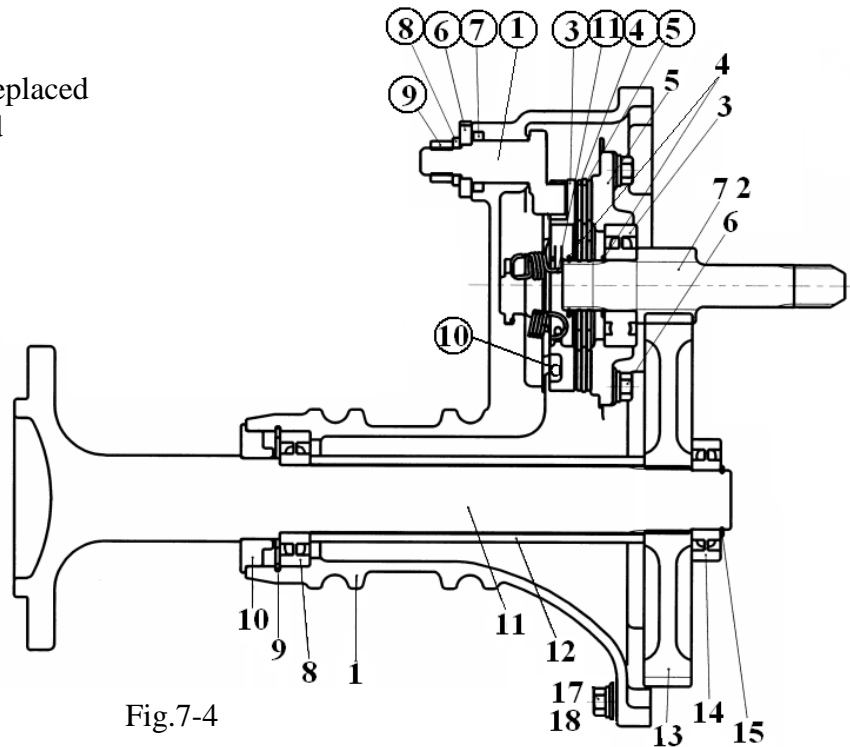

Fig.7-4
- 4) Remove the snap ring of wheel pinion(7, 2) (Fig.7-4) And individually separate the friction plates④, brake cover(5), and separator plates③ from each other.